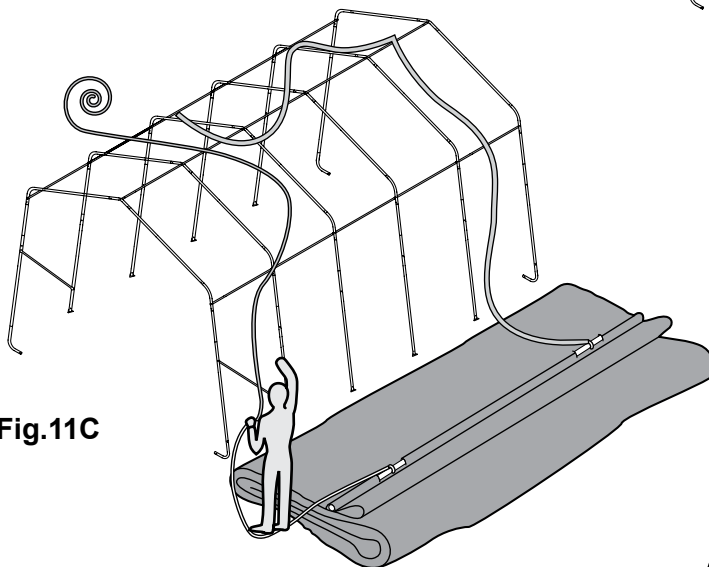

Fig.11C
**C.** Tie the rope on each of the exposed pipes and throw the other end of the rope over the frame. Fig. 11C.